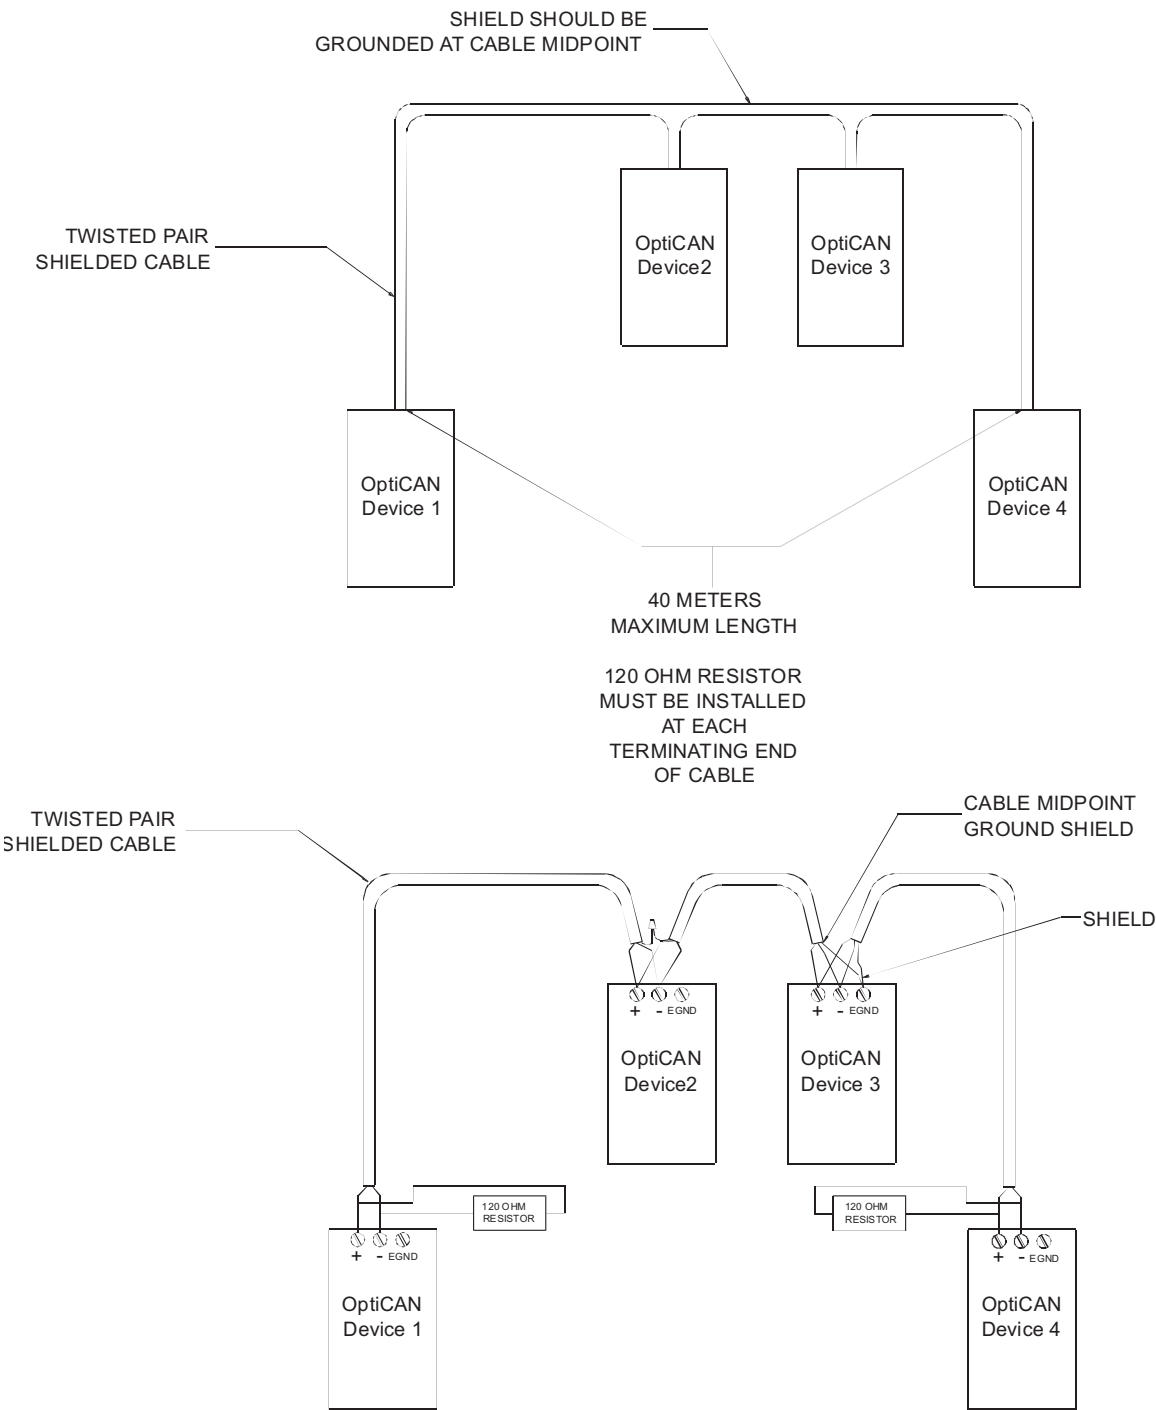

Figure 16.0
4. If wiring as a network bus with stub connections, the maximum stub length from bus to node is 1 Meter. See Figure 16.0 for a sample connection diagram.